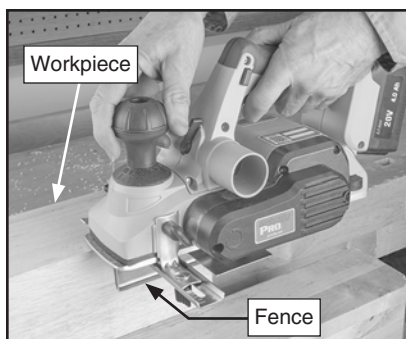

Figure 16. Fence flush with workpiece for rabbeting operation.
8. Rest front shoe flat against workpiece surface and fence flush with edge of workpiece (see **Figure 16**). Cutterhead should not contact workpiece.